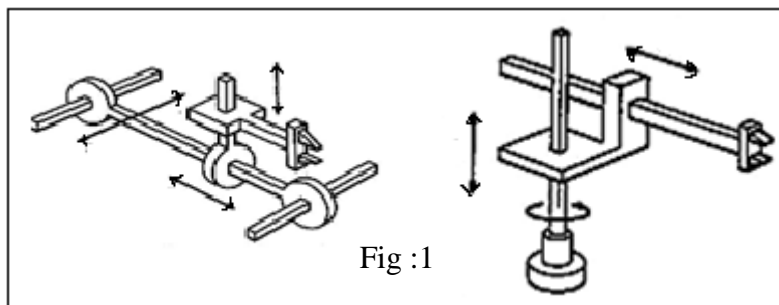

Fig :1
- 1A. Identify the following configurations and draw the appropriate work volume for the configuration as shown in fig.1 and also mention its joint notation scheme.